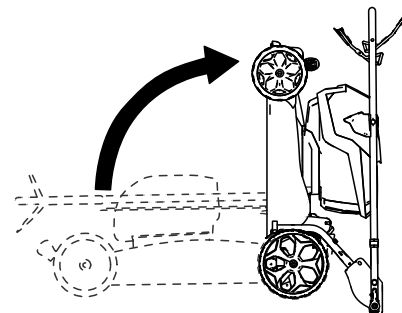

Figure 18
- Fold the handle forward to the fully forward position as shown in Figure 18.
- Lift the front of the machine by the handle and move it into a storage space (Figure 18).